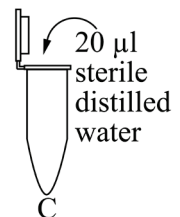

Fig. 7
6. Using the P200 micropipette and a sterile tip, add 20 μ l sterile distilled water to tube “C” (Fig. 7).